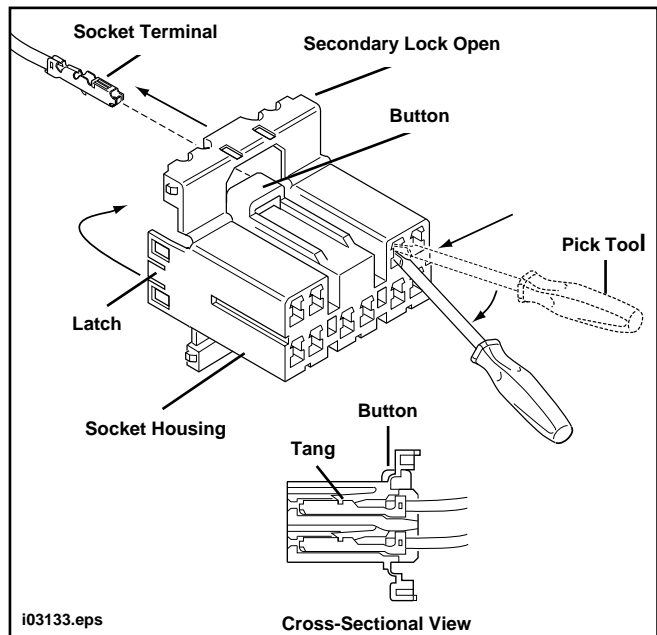

Figure 6. Remove Wiring from Connector (Typical)
- a. See Figure 6. Bend back the latch slightly and free one side of secondary lock, then repeat the step to release the other side. Rotate the secondary lock outward (open) on hinge to access terminals in chambers of connector housing.